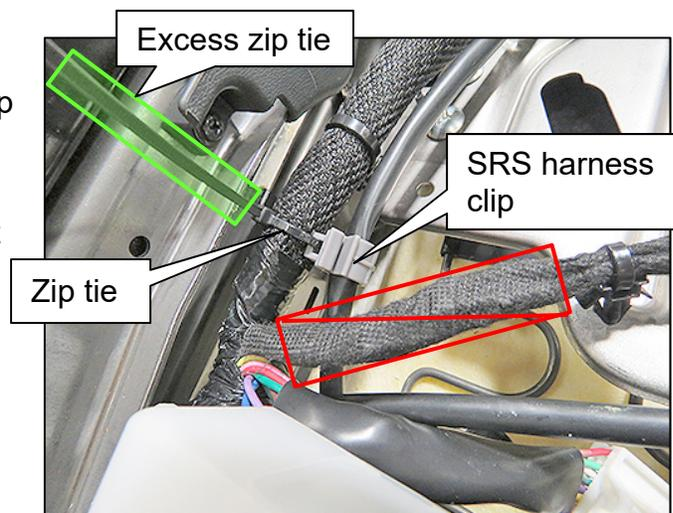

Figure 29
36. Reattach the SRS harness clip that was removed in step 11 with a new zip tie, as shown in Figure 29.